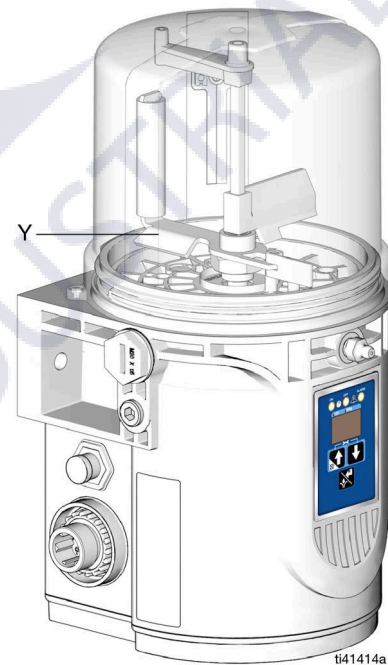

FIG. 20
1. Connect the fill hose to the Zerk Inlet Fill Fitting (E) (FIG. 20).